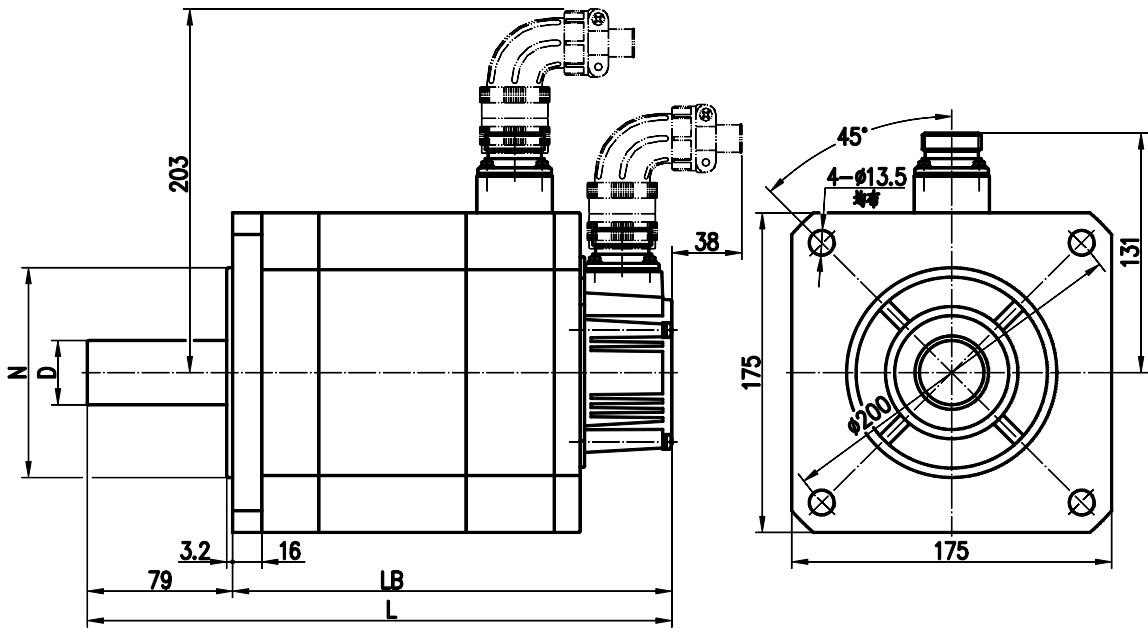

Fig. 3
6.3 See Fig.3 and Table 5 about the installation dimensions of 175SJT